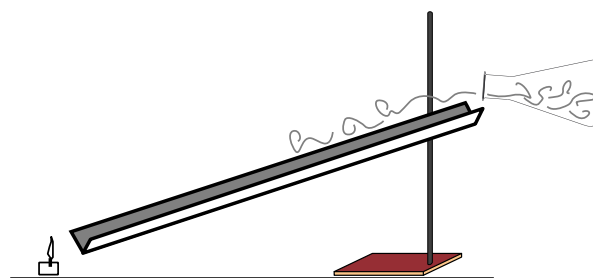

Figure 1.
2. Prepare a vapor ramp by elevating one end of the aluminum angle bracket using a ring stand and clamp. The ramp should be at a 20° angle or about 20 cm elevation (see Figure 1).
3. Place an unlit candle on the countertop directly below the lower end of the vapor ramp (see Figure 1).